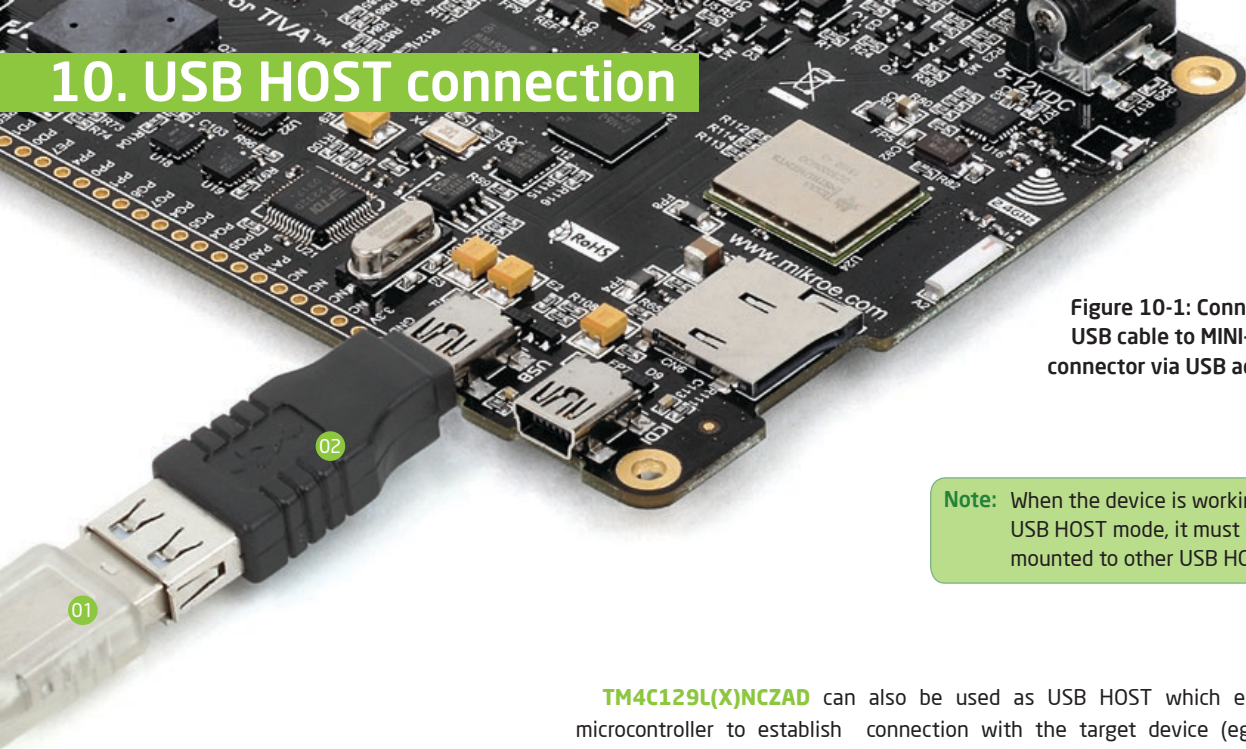

Figure 10-1: Connecting USB cable to MINI-B USB connector via USB adapter
**TM4C129L(X)NCZAD** can also be used as USB HOST which enables microcontroller to establish connection with the target device (eg. USB keyboard, USB mouse, etc). The board provides necessary power supply to the target via TPS2041B IC. To connect **01** USB HOST cable, it is necessary to use the appropriate **02** MINI-B USB to USB type A adapter. For proper insertion refer to **Figure 10-1**.